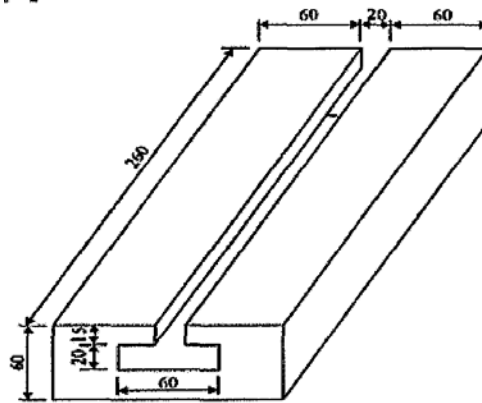

fig. 7a
- Q7) a)** A T-slot is to be cut in C.I. slab as shown in fig.7a. Estimate the machining time. Take cutting speed 25 m/min, feed is 0.25 mm/rev. Diameter of cutter for channel milling is 80 mm. Assume suitable data if required with justification. [10]